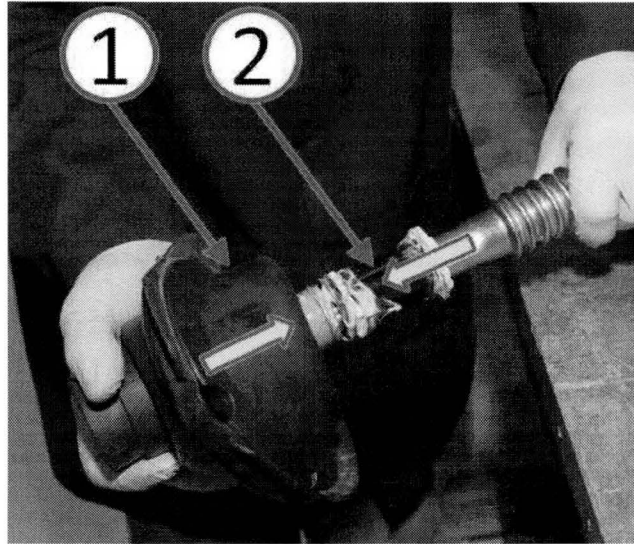

Fig. 8 Install Boot To Intermediate Shaft
8. Use a quick push action to install the intermediate shaft bulkhead pass through boot and outer bearing sleeve assembly (1) to the intermediate shaft inner bearing sleeve (2) (Fig. 8).